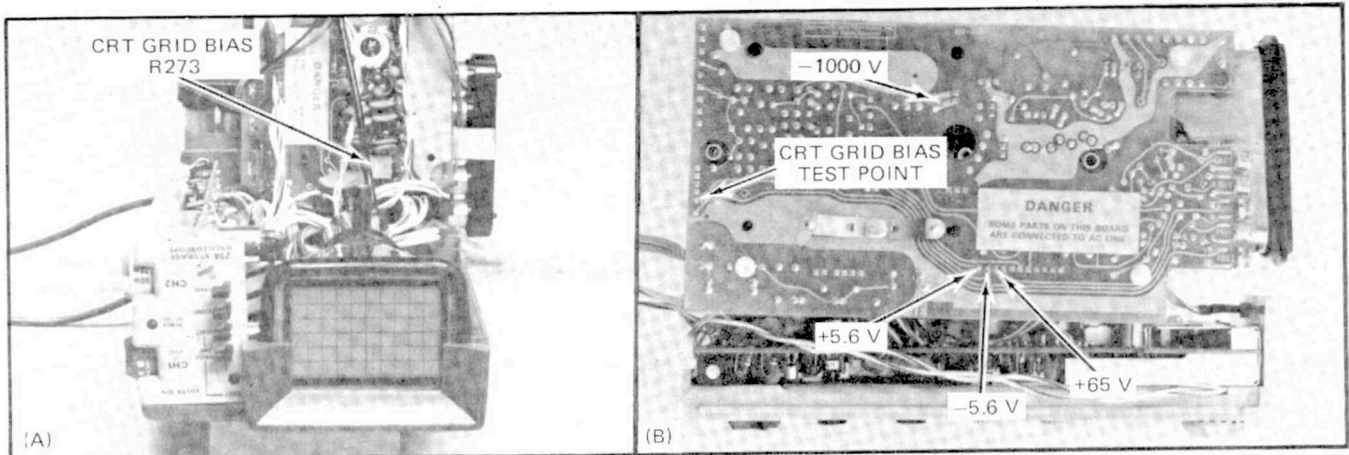

Fig. 4-1. (A) Location of Grid Bias adjustment and (B) Power supply test points.
a. Using the DC Voltmeter, measure the DC level of the power supplies given in Table 4-2. Observe proper meter polarity. See Fig. 4-1 for test point locations.
a. Connect the DC Voltmeter between pin 5 and pin 2 of plug P3 (negative meter lead to pin 2) on the Power Supply Board (A-3). See Fig. 4-1.